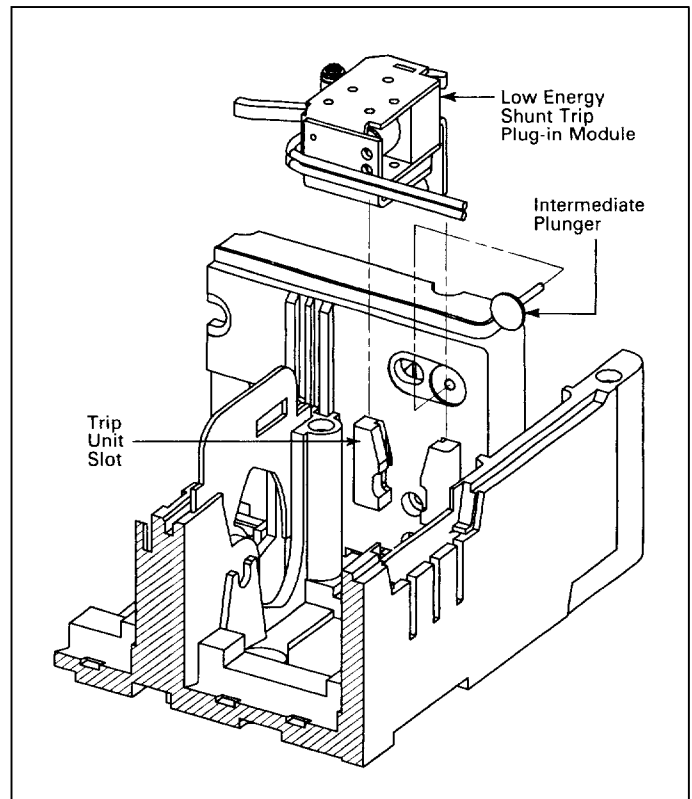

Fig. 2-3. Installing Intermediate Plunger and Shunt Trip
- 2-5. For high instantaneous trip-type (catalog suffix K designation) molded case switches, find recessed hole in either of the trip unit outer poles (Fig. 2-3). Push intermediate plunger supplied with LEST in one hole to trip the molded case switch. Remove plunger to prevent it falling out of recessed hole in trip unit and into molded case switch mechanism.
- 2-8. Install LEST as described in the following steps (Fig 2-3):
- a. Remove barrier from trip unit accessory mounting slots in pole being used for accessory (see Fig. 2-3).
- b. Position intermediate plunger in trip unit (Fig 2-3).
- c. Press intermediate plunger into recess in trip unit, and hold in position. Slide LEST plug-in module into slots (Fig. 2-3) until retaining clip snaps into trip unit. For terminal block assemblies, slide terminal block into mounting slot on side of base as plug-in module is properly positioned.